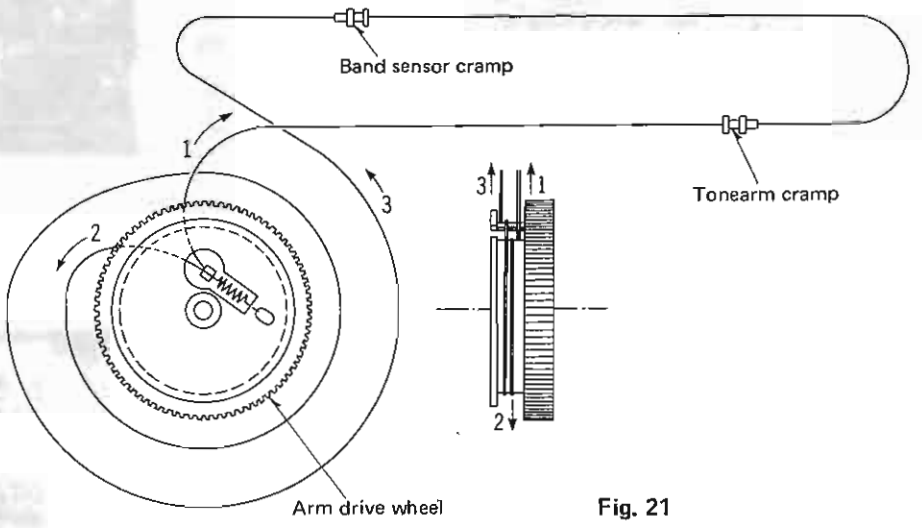

Fig. 21
3. Set the rope over the arm drive wheel in order (1 ~ 3) as shown in Fig. 21.
5. Slide the tonearm and the record band sensor; secure the parts to the rope cramp. (See Fig. 21)